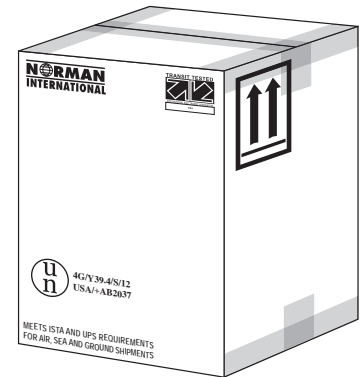

Figure 4
4. Fold top of fiberboard box and seal center seam with 2" wide clear plastic tape (3M Type 371) extending 3" on each side. Use "H" pattern for taping. (See Figure 4)